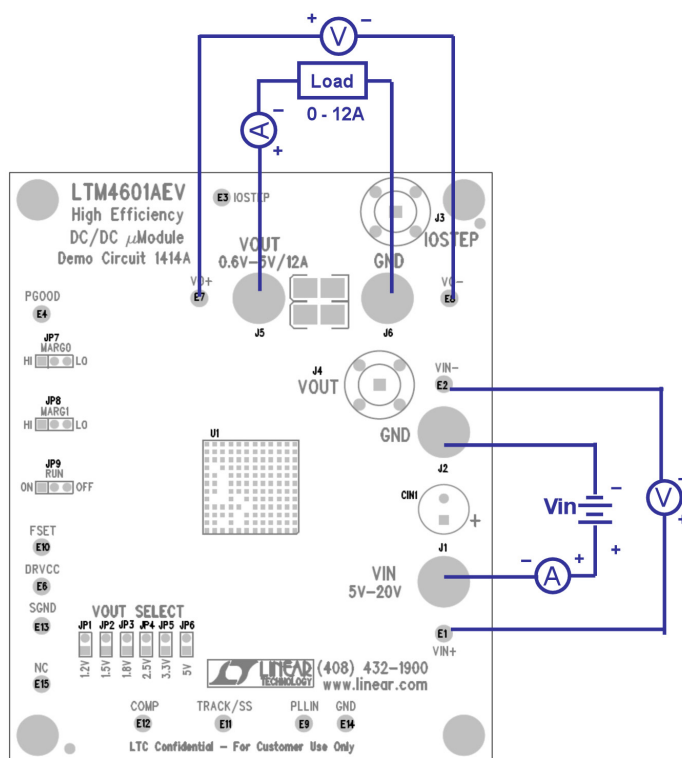

Figure 1. Test Setup of DC1414A
Demonstration circuit 1414 is easy to set up to evaluate the performance of the LTM4601AEV. Please refer to Figure 1 for proper measurement equipment setup and follow the procedure below:
2. With the power off, connect the input power supply, load and meters as shown in Figure 1. Preset the load to 0A and V_{IN} supply between 5V to 20V.